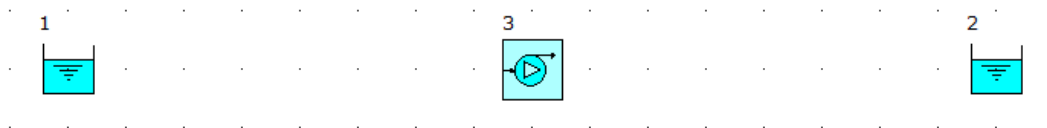

Figure 5: Compressor in the middle of the Known Pressure Nodes.
5. Place the compressor icon on the flowsheet by left mouse-clicking on the icon on the *Component Palette*. To place the node on the flowsheet, we need to left mouse-click in the desired location (Figure 5).